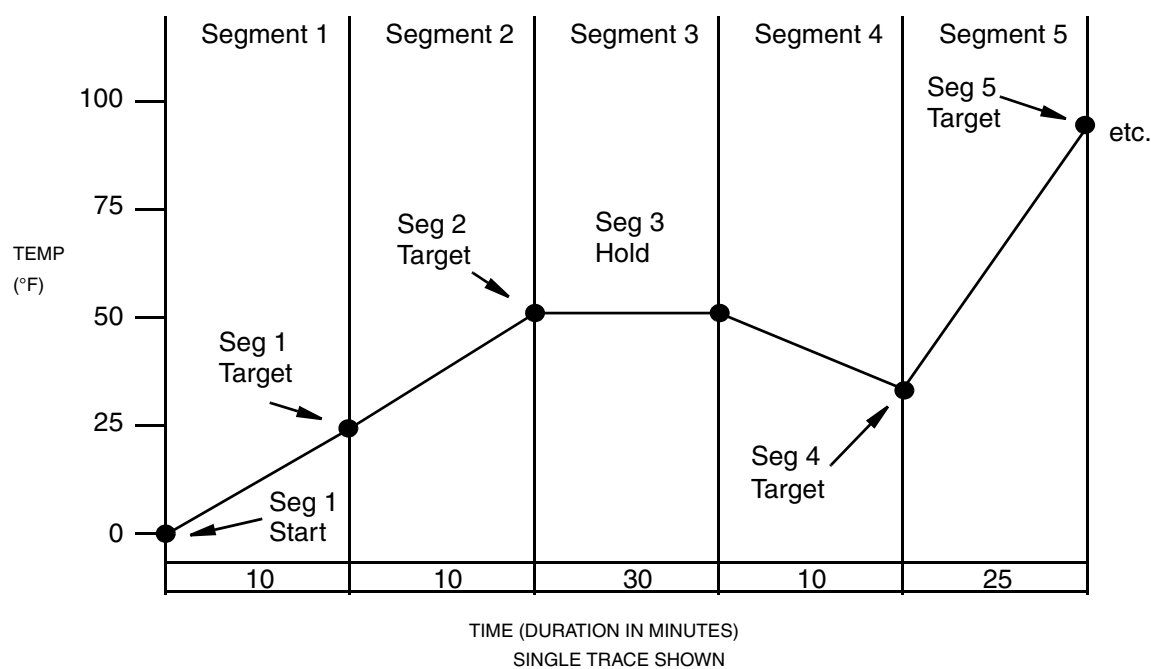

Figure 38. Time/Temperature Ramp
The purpose of a ramp generator (RG) is to force a preprogrammed chain of events using time versus selected values (see Figure 38, Time/Temperature used as an example). The 740 ramp generator option provides an electronic substitute for mechanical cam set instruments that performed the ramp function. This ramp generator furnishes two output traces (the equivalent of cam followers), one timer that is common to both traces, and eight on/off event states (the equivalent of cam tabs). Output of the trace is through the retransmission option. Output of the event states is through the relay option. The ramp generator may, however, be used without any physical output wiring, either as a remote setpoint or as an input to a calculated variable. Pen assignment, if desired, is done through the retransmission output plus wiring the retransmission output to the desired channel input (see wiring section). Assignment may also be accomplished via CV, Channel 5 or 6.